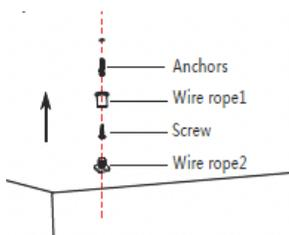

Fig. 26
5. Drill holes in the wall and install the hardware (Fig. 26).